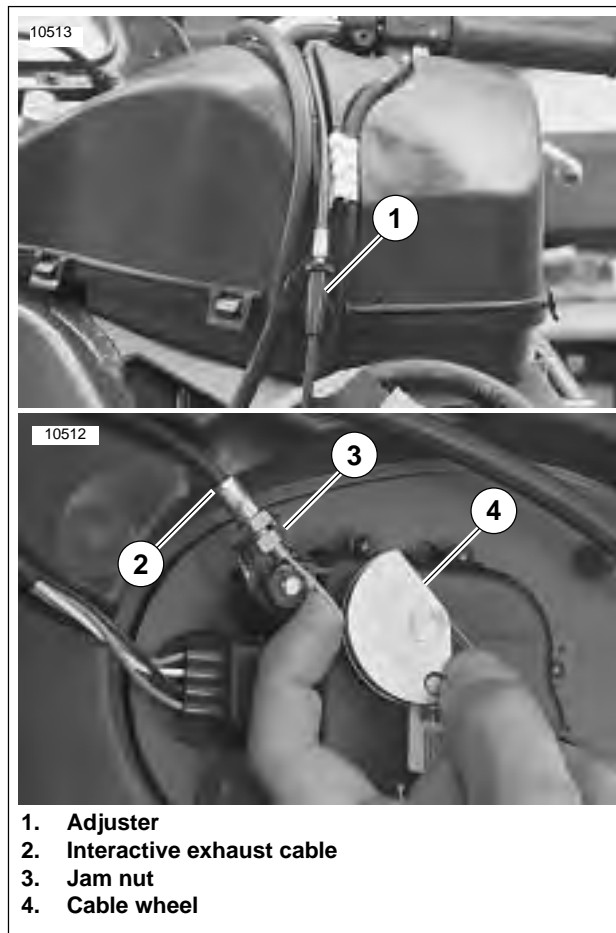

Figure 1-43. Interactive Exhaust Cable
3. See Figure 1-43. Loosen jam nut (3).
4. Remove cable (2) from bracket and cable wheel (4).
- a. See Figure 1-43. Move cable with your fingers from side to side. There should be no more than 1/8 in. (3.2 mm) side play in cable in either direction with 1/4 in. (6.4 mm) maximum overall side play.
- b. Adjust cable as needed using cable adjuster (1).